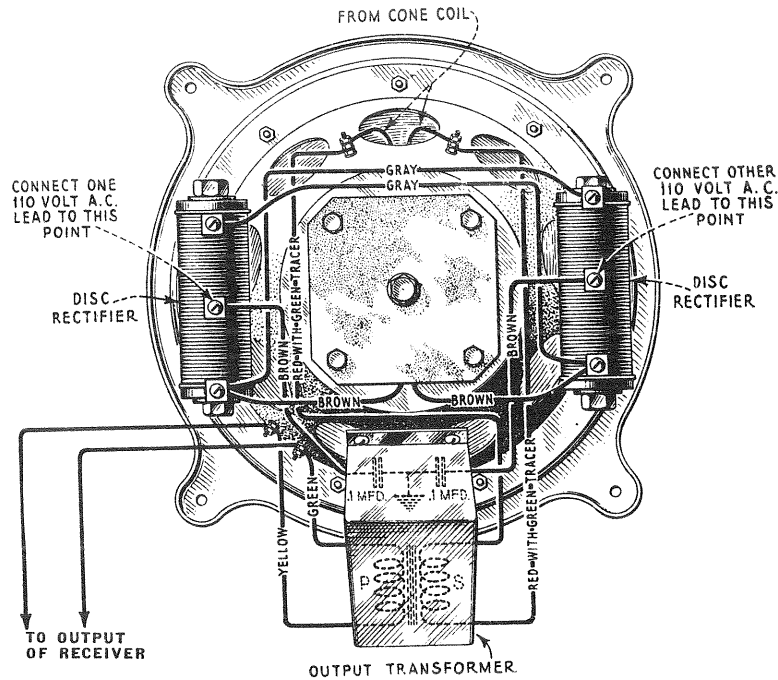

Figure 3—Wiring diagram of reproducer unit
- (c) Defective connections to rectifier or to field, or a defective operating switch. Check all connections carefully against the wiring diagram Figure 3.
The two line condensers may be tested by releasing their two outside leads (Figure 3) and testing from each lead to frame. They should test open. A shorted condenser will necessitate a replacement of the whole unit including the output transformer.
After all testing is completed and the necessary repairs are made, all wiring should be returned to its proper place as indicated in Figure 3.